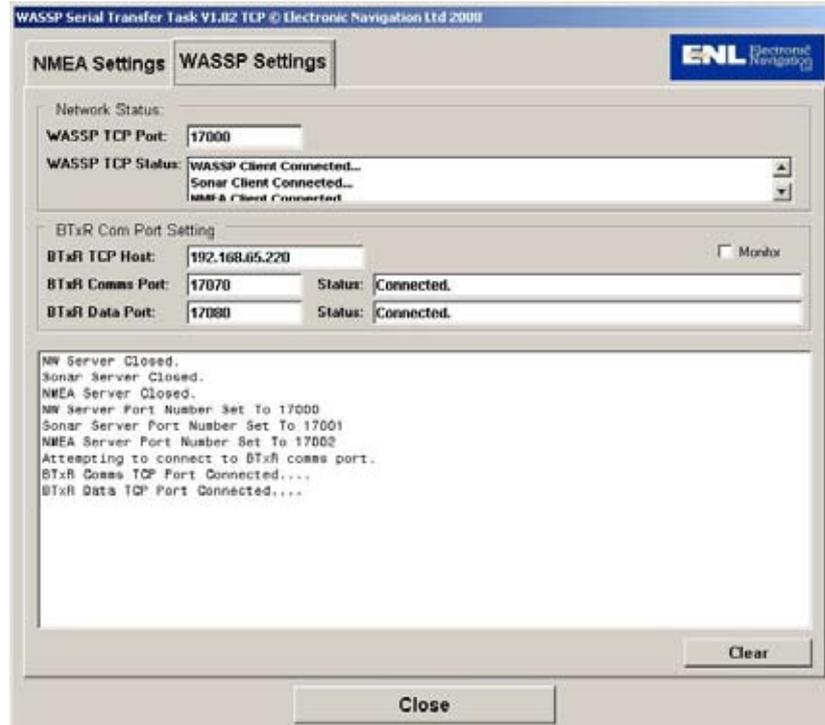

Figure 25 – WASSP (WMB160F) Settings Tabbed Page
- ▶ WASSP Settings tab page. See Figure 25.